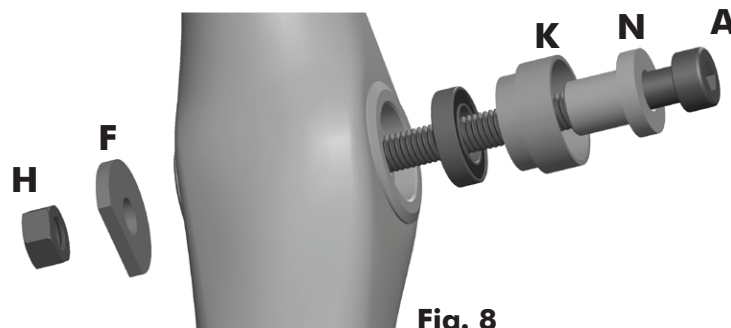

Fig. 8
3. To install the first new bearing into the Seat Tube Pivot orient the tools as shown in Fig. 8. Tighten the screw to draw the bearing into one side of the frame.